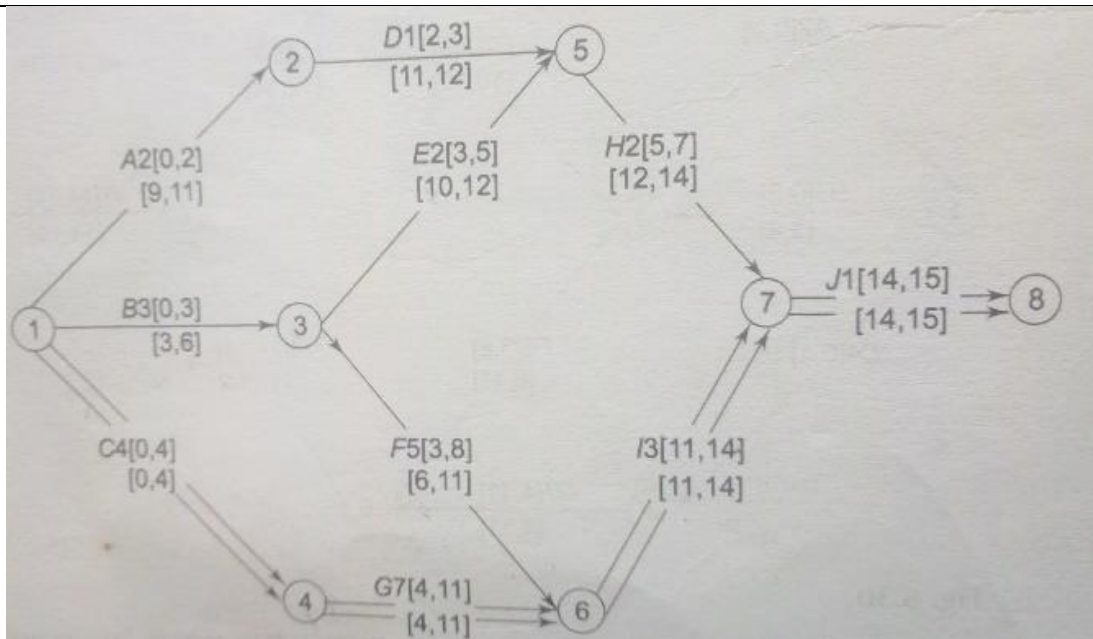

Figure 17
Step 4 : Once both forward and backward moves are completed, the time is to identify a path having same timings for both forward and backward moves. It is clear that there will be only one path that has same value in both the cases of forward and backward moves. This path (from first node to the last) is referred as Critical Path (refer figure 17).